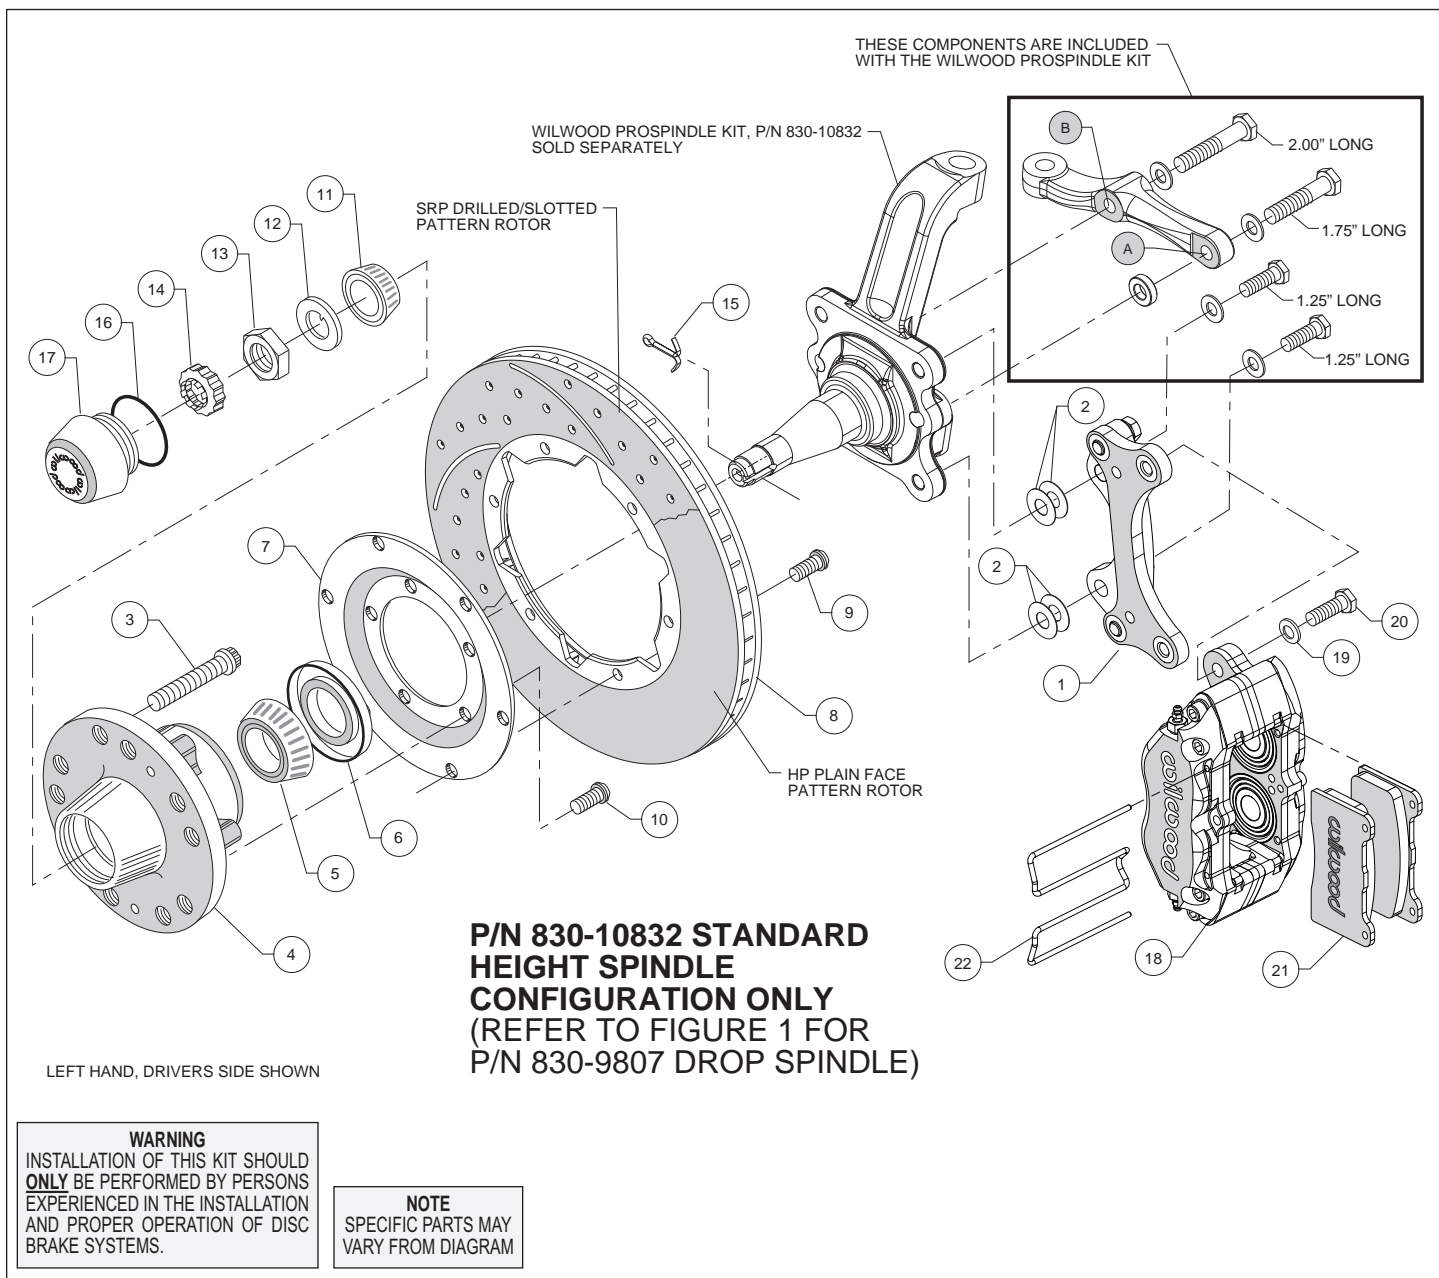

Figure 2. Installation Configuration For Standard Height Spindle, P/N 830-10832
- Orient the bracket as shown in Figure 2 and Photo 2. Install using 1.25" long bolts and .06" thick washers (from ProSpindle kit), and two .016" thick shims (2) on each bolt between the bracket and spindle, Figure 2. Temporarily tighten mounting bolts. **NOTE:** *The bracket must fit squarely against the mounting points on the spindle.* Inspect for interference from casting irregularities, machining ridges, burrs, etc. Later, after the caliper alignment has been checked, the mount bolts will be secured using red *Loctite*® 271.
- Orient the steering arm, and identify the hole marked 'A', as shown in Figure 2. Install using 1.75" long bolt, .06" thick washer, and .30" thick spacer (all from ProSpindle kit), Figure 2.
- Finish attaching the steering arm through the hole marked 'B', as shown in Figure 2. Install using 2.00" long bolt and .06" thick washer (from ProSpindle kit), Figure 2.